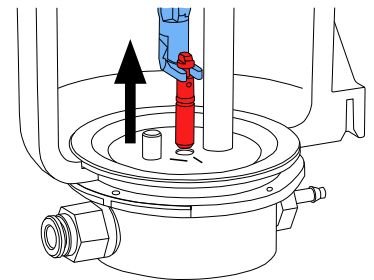

Fig. 11
- Hold the dosing nozzle with the tool and pull upwards (Fig. 11).